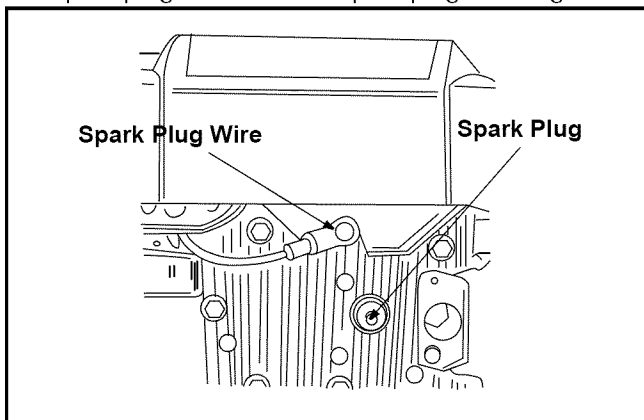

Figure 1
- Before setting up your lawn mower, disconnect the spark plug wire from the spark plug. See Figure 1 .